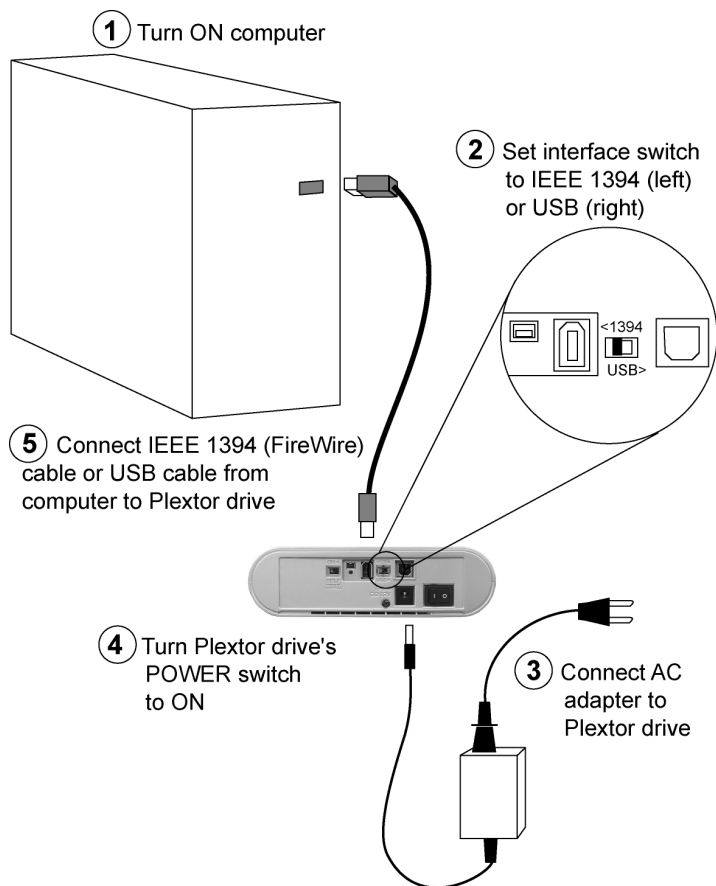

Figure 3: Connecting the AC adapter and USB or FireWire cable
3. Connect the AC adapter to your PX-712UF as shown in Figure 3.